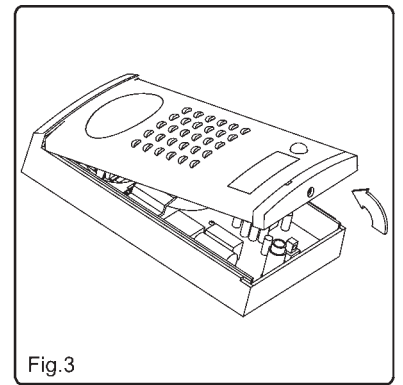

Fig.3
- Place the front plate over the outdoor station as shown on figure 3 (leaving 3-4mm between the top of the plate and the outdoor station) then move the bottom of the plate in the opposite direct to the arrow in figure 3 bring the plate towards the back box.